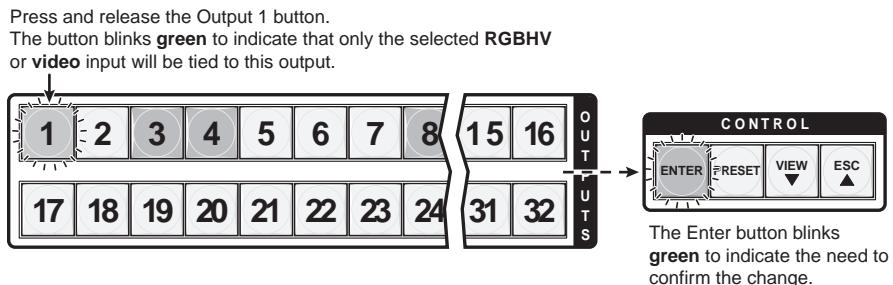

Figure 3-14 — Select the output
4. Press and release the output 1 button (figure 3-14).